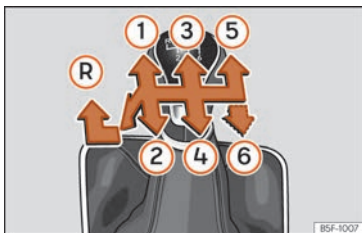

Fig. 242 Gear shift pattern of a 5 or 6-speed manual gearbox.
The position of the gears is indicated on the gearbox lever »» Fig. 242.
- With the gearbox lever in neutral, push it downwards, move it to the left as far as it will go and then forwards to select reverse »» Fig. 242 (R).